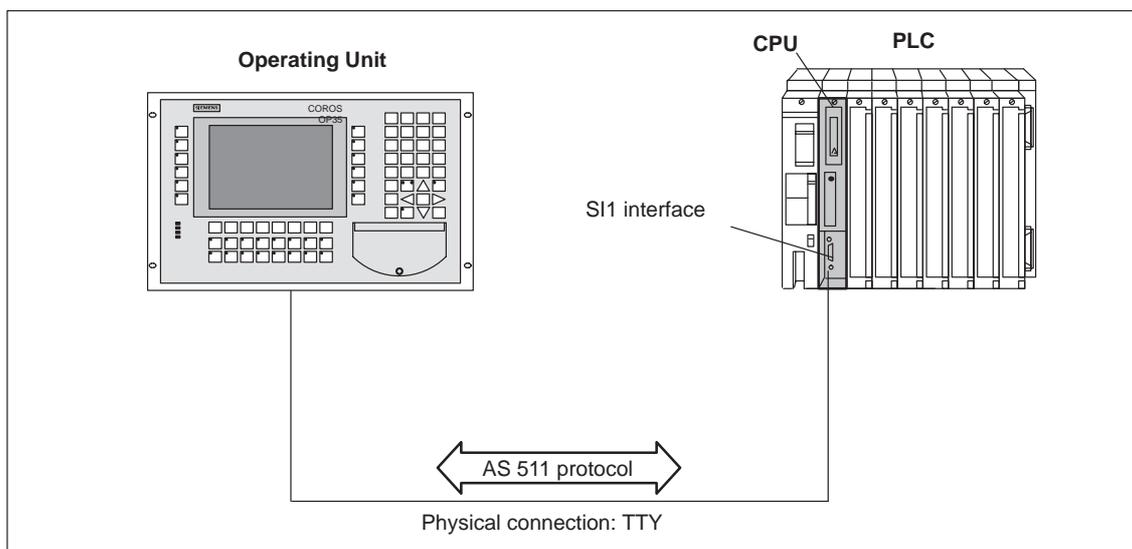

Figure 1-1 AS511 Connection
**Interface** The operating unit is connected via the integral serial interface to interface SI1 on the CPU (figure 1-1).